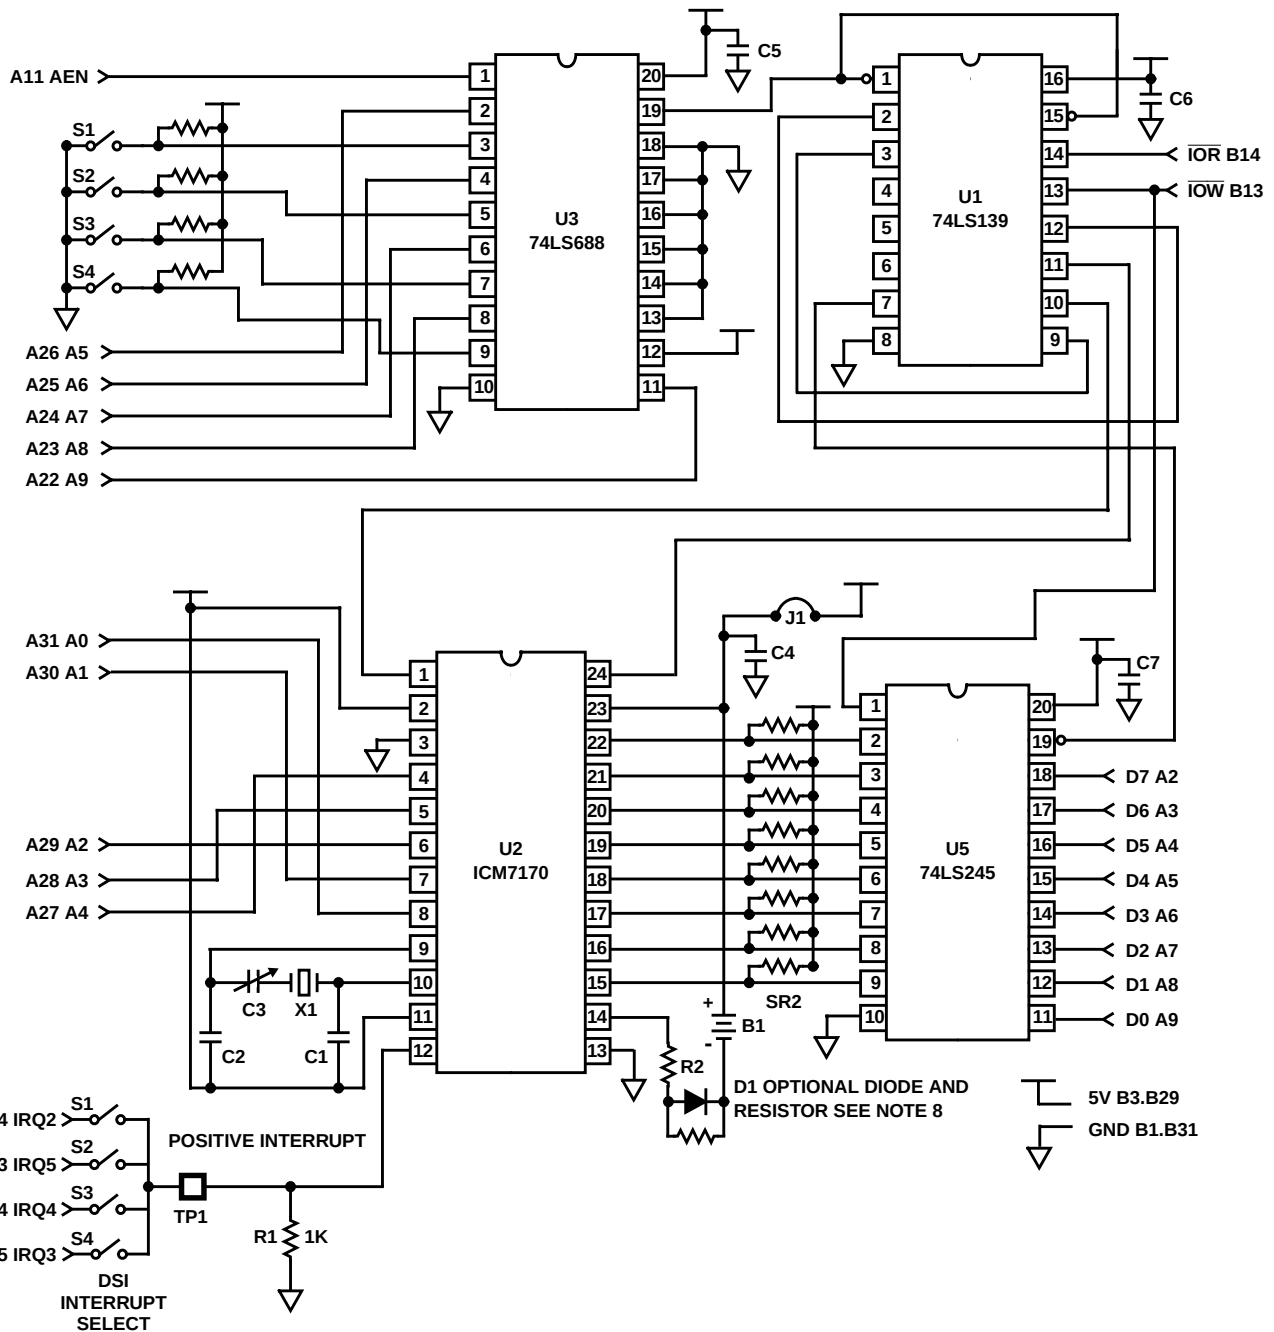

FIGURE 9. IBM PC INTERFACE FOR ICM7170Y
Figure 9 shows the schematic of a board that has been designed to plug into an IBM PC/XT (Note 1) or compatible computer. In this example $\overline{CS}$ is permanently tied low and access to the chip is controlled by the RD and WR pins. These signals are generated by U1, which gates the IBM's $\overline{IOR}$ and $\overline{IOW}$ with a device select signal from U3, which is functioning as an I/O block address decoder. DS1 selects the interrupt priority.
8. **V_{BACKUP} DIODE** - Lithium batteries may explode if charged or if discharged at too high a rate. These conditions could occur if the battery was installed backwards or in the case of a gross component failure. A 1N914-type diode placed in series with the battery as shown in Figure 9 will prevent this from occurring. A resistor of 2M Ω or so should parallel the diode to keep the V_{BACKUP} terminal from drifting toward the V_{SS} terminal and shutting off ICM7170 I/O during normal operation.